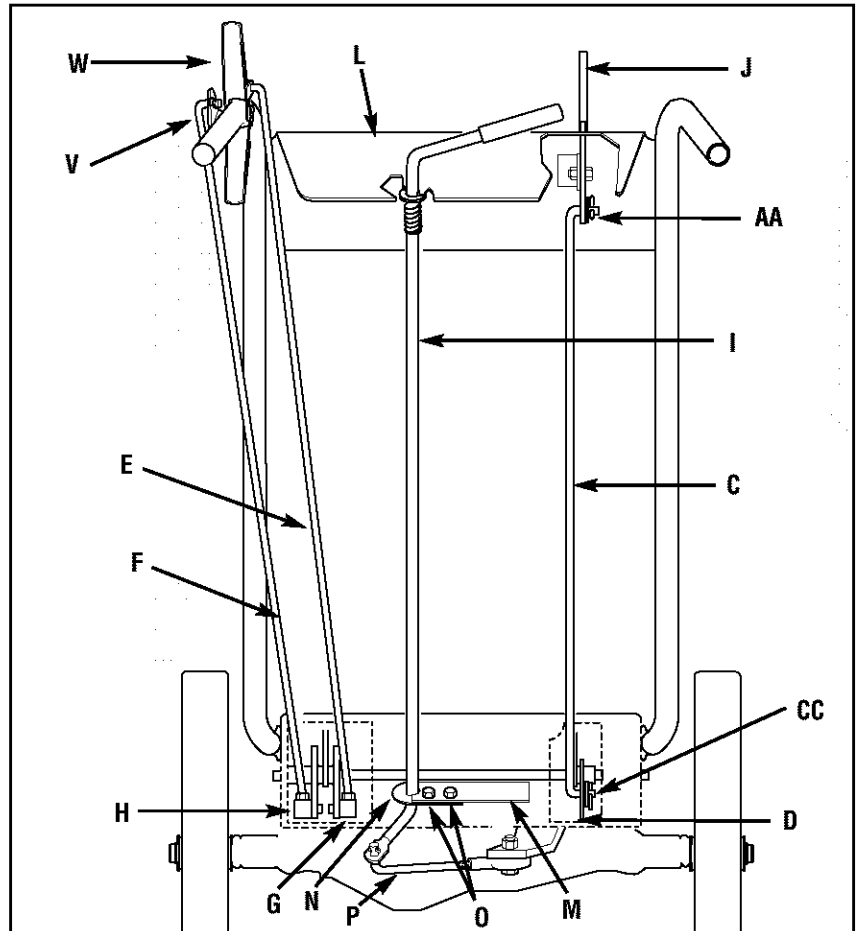
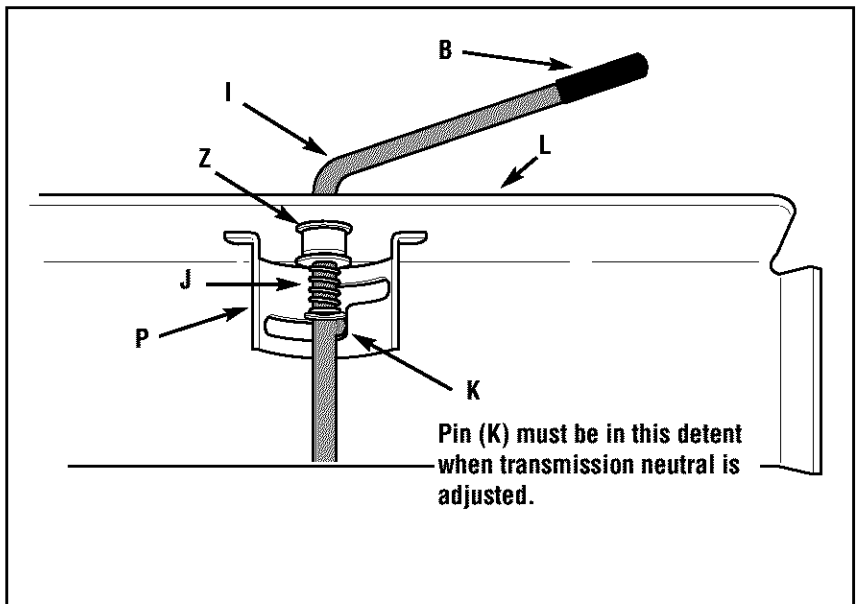
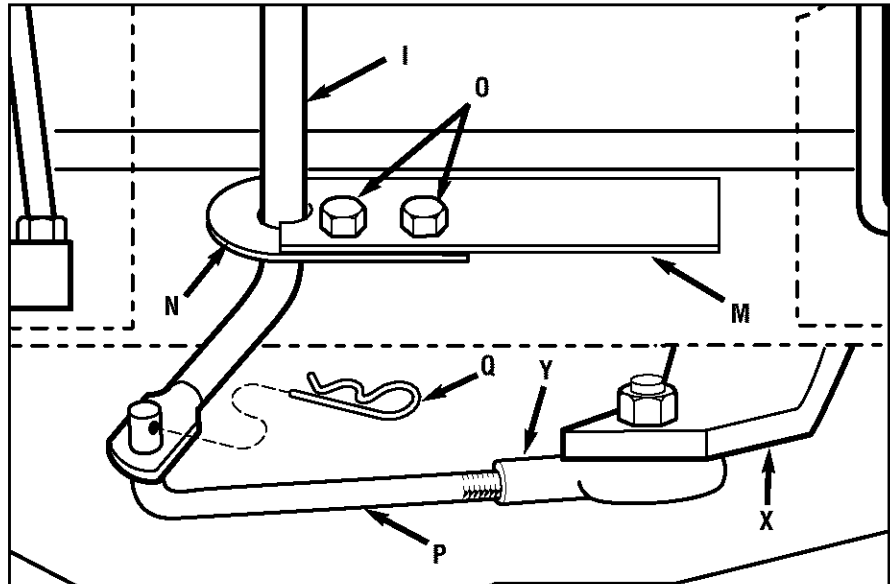

Figure 2-7: Rear view of control rods.
Figure 2-8: Detail - Gear Select Lever in Neutral (N) position.
Figure 2-9: Detail – Transmission Neutral Adjustment.
1. Locate the blade drive control rod (C, Figure 2-7). Insert one end of control rod into blade drive bracket (D, Figure 2-7). Add one 5/16" washer and attach with hairpin clip (CC).
2. Insert the other end of rod into bottom end of Blade Drive Control lever (J, Figure 2-7). Add one 5/16" washer and attach with hairpin clip (AA).
NOTE: The retaining plate (N, Figure 2-7) mentioned in the following steps is secured to the rear of the mower with two screws (O, Figure 2-7) and 1/4"-20 lock-nuts. Remove the retaining plate and save it, along with the two screws, before proceeding with assembly.
1. Remove the vinyl grip (B, Figure 2-8) from the gear select lever (I). Place the wood edge against the edge of the grip and slowly pull off the grip.
2. Insert nylon bushing (Z, Figure 2-8) up into console (L).
3. Slide spring and washers (J) down onto gear select lever.
4. Insert gear select lever (I) up through nylon bushing (Z) in handlebar console (L). Guide pin (K) on gear select lever into groove in shift quadrant (P).
5. Hold lower part of gear select lever (I, Figure 2-9) against bracket (M). Position retaining plate (N), removed earlier, as shown in Figure 2-9 (plate below bracket). Secure plate with two 1/4"-20 x 1/2" screws (O) and 1/4"-20 locknuts removed earlier.
6. Slide grip (B, Figure 2-8) back onto gear select lever (I).
7. Rotate gear select lever (I, Figures 2-8 & 2-9) clockwise until spur (K - short rod) on gear select rod stops in the neutral position detent on the shift pattern quadrant (Figure 2-8).
8. Move shift arm (X, Figure 2-9) from side to side as necessary into each transmission gear detent until transmission is in neutral.
NOTE: Moving shift arm (X) all the way to the left, and then one notch back to the right, should put transmission into neutral. When transmission is in neutral, unit will move freely when pushed while holding the Operator Presence Control lever (W, Figure 2-7) down. If transmission is NOT in neutral, there will be a slight drag on the wheels when pushing unit.
9. When shift arm (X) is in neutral position, rotate shift link (P) toward end of gear select lever rod (I). Adjust length of shift link (P) as necessary to fit into hole in bottom of gear select lever (I).
NOTE: Pin (K) on Gear Select Lever (I) must be held in the neutral position detent on the shift quadrant (see Figure 2-8) while shift link (P, Figure 2-9) is adjusted.
10. Insert hooked end of shift link (P, Figure 2-9) into hole in bottom end of gear select lever (I) and secure with hairpin clip (Q).
11. Remove unit from shipping crate. To remove, hold down Operator Presence Control lever (W, Figure 2-7) which releases the wheel brake.
12. With unit on level ground, hold down Operator Presence Control lever (W, Figure 2-7) and push unit forward and backward. The wheels should move freely. If not, adjust length of shift link (P, Figure 2-9) as necessary.
1. Move mower to a level area. Press and hold Operator Presence Control lever (W, Figure 2-7) to move mower.